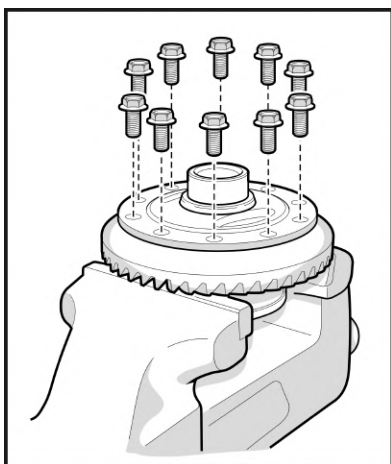

Fig. 12
2.1 Secure the existing differential in a vise. Remove the ring gear mounting bolts. (Fig. 12)